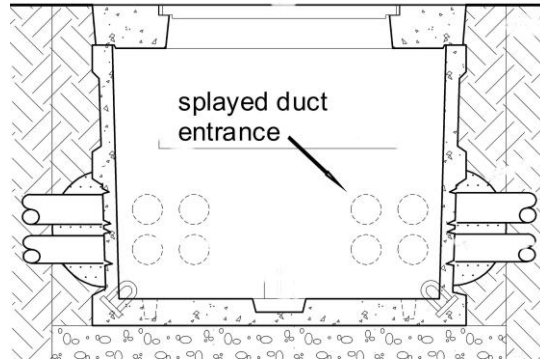

Figure 2 – Splayed manhole showing duct entrance located near sidewall.
3.3 Splayed manholes, i.e., manholes that provide conduit terminations near the sidewalls as shown in Figure 2, are preferred over center-entrance manholes. The splayed manholes provide minimum offset between the duct entrance and sidewall of the manhole thus simplifying cable routing in the manhole.